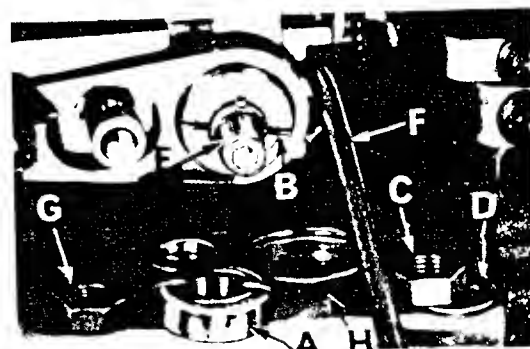

Fig. 15
If eccentrics are unusually tight fitting, in addition to removing nut (C) and washer (D, Fig. 15) from shaft (E), it may be helpful to remove nut (G) and feed driving connection (H). Then continue as originally suggested.